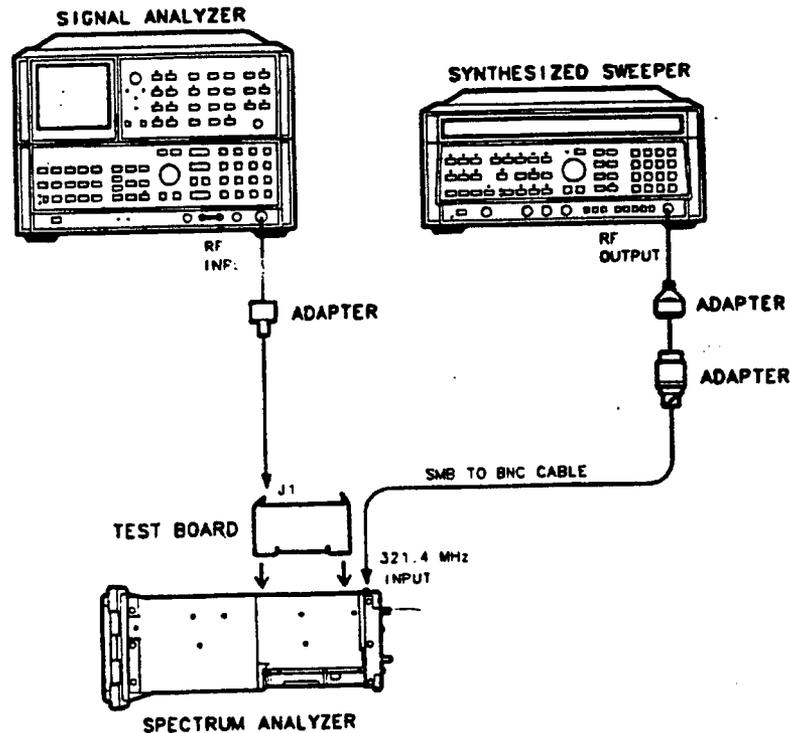

Figure 2-20. Second IF Bandpass Filter Adjustment Setup
7. Connect the synthesized sweeper output to A9J4. Refer to Figure 2-20.
10. Connect the HP 8566A/B RF INPUT to J1 of the IF test board. Refer to Figure 2-20.